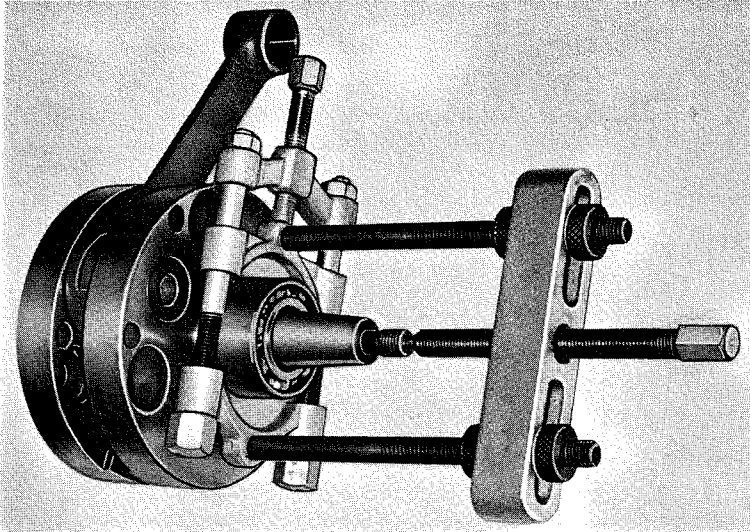

Fig. 3
3. If the crankshaft bearings jam on the crankshaft during disassembly they can be removed with the aid of an external ball-bearing puller. See Fig. 3.